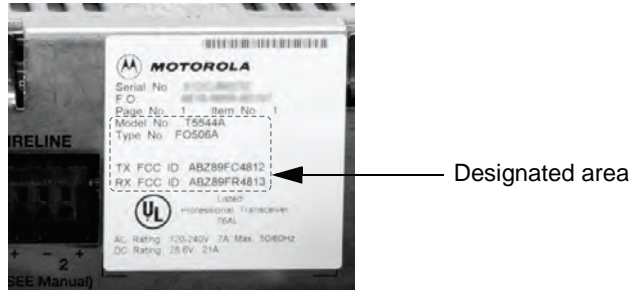

Figure 10-5 Location to affix the Digital Upgrade Kit label
8. Affix the provided T2003 Digital Upgrade Kit label to the area noted in Figure 10-5.